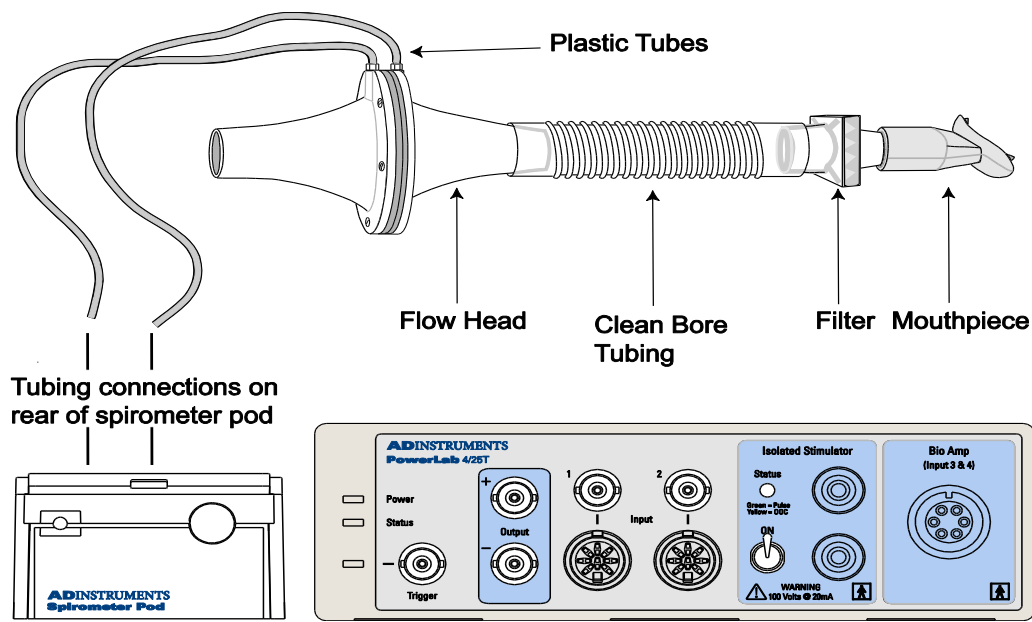

Figure 1. PowerLab pirometry assembly
3. Connect the two plastic tubes from the respiratory flow head to the short pipes on the back of the Spirometer Pod, as shown in Figure 1